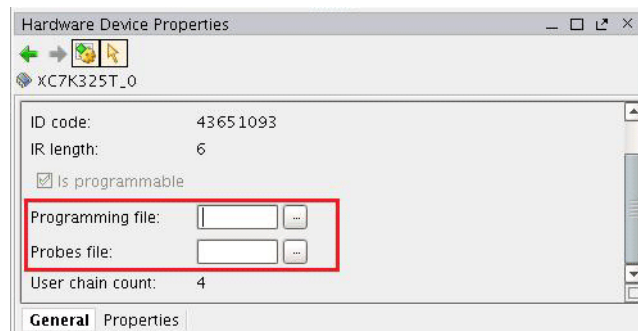

Figure 31: Hardware Device Properties
5. In the Hardware panel, click the active device, XC7K325T\_0 (0) (Active).
6. In the Hardware Device Properties panel, set Programming file to the bitstream file name (aurora\_8b10b\_0\_exdes.bit) and set Probes file to the probes file name (debug\_nets.ltx, Figure 31).